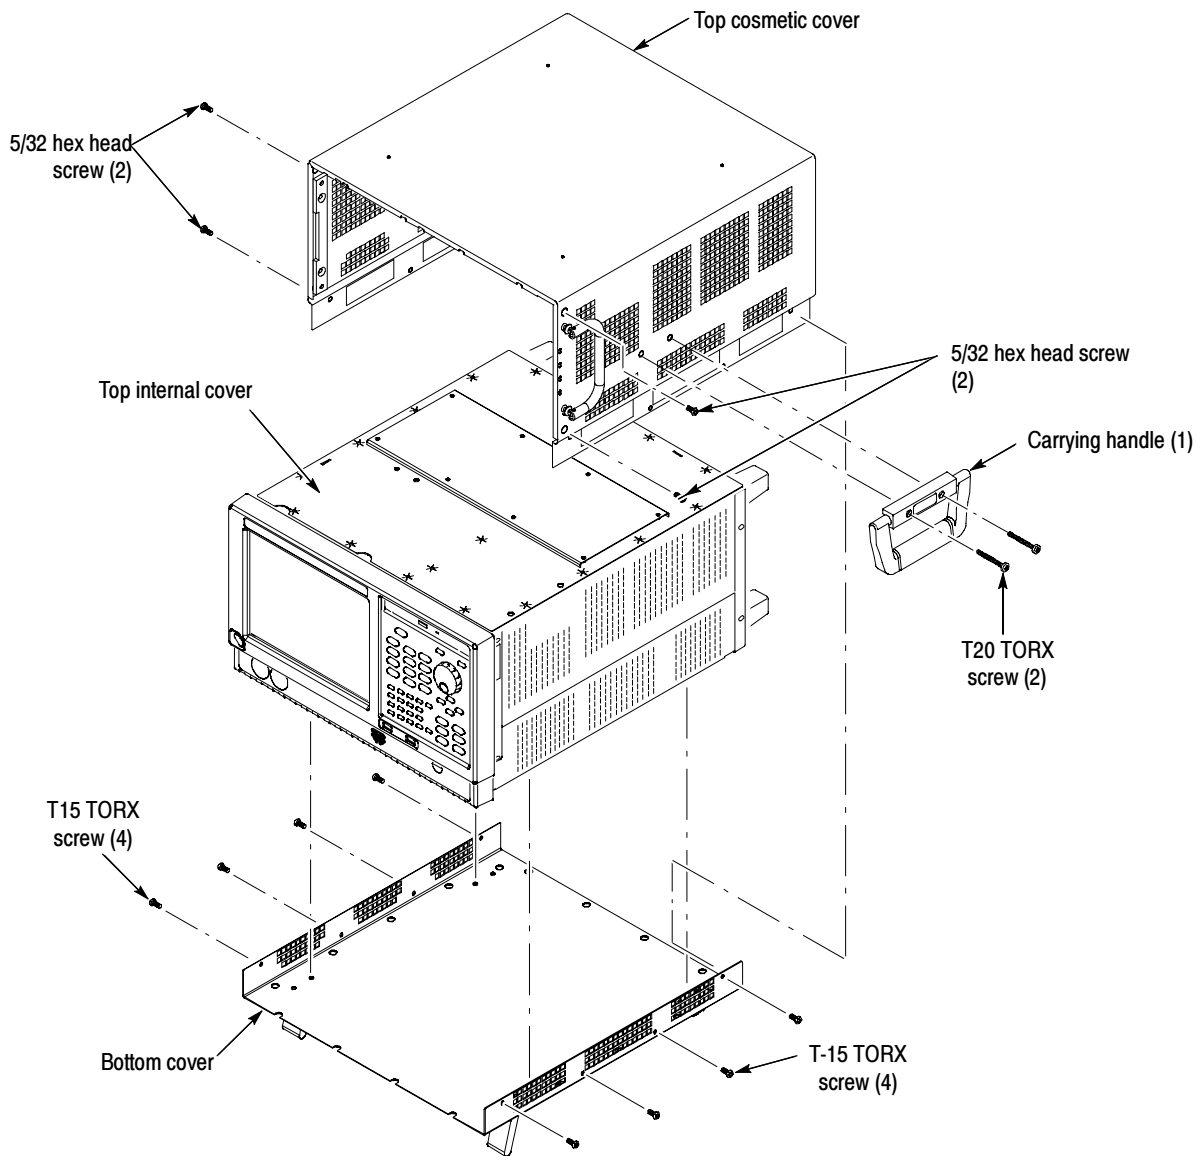

Figure 12: Removing cosmetic covers
2. Remove the two T15 screws that secure the plastic carrying handle to the side of the instrument (it is not necessary to remove the black metal handles). See Figure 12 on page 16.